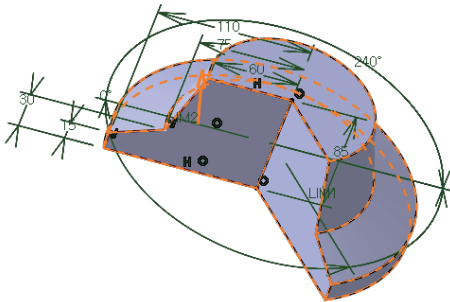

Fig 6-24 Preview of the Shaft Feature
4. Input 240 deg in the **First angle** input box and press the **Preview** button. The preview is shown in Fig 6-24.